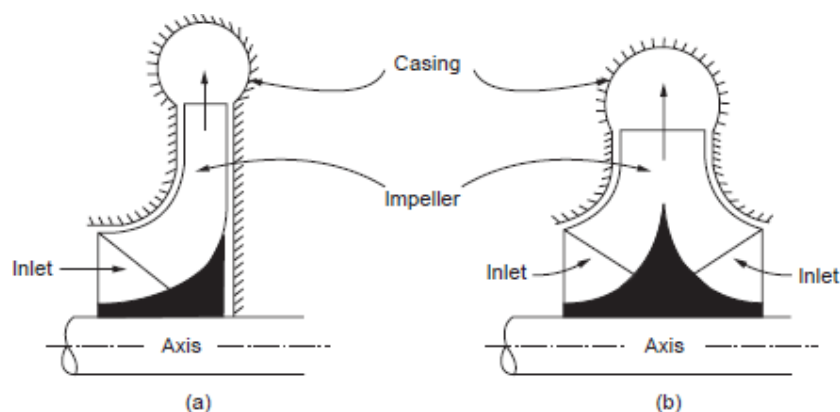

Fig. 6.2 Classification based on fluid entrance
**6.3.2 Based on Fluid Entrance:** Based on fluid entrance centrifugal pumps are classified as single entry and double entry pumps as shown in figure 6.2.